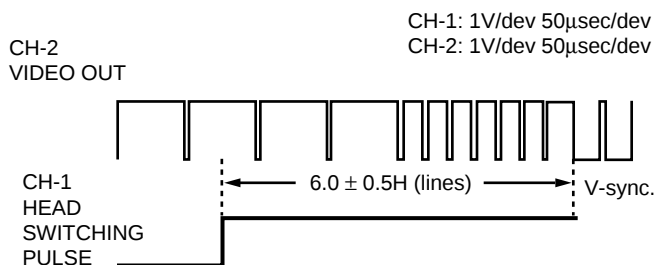

Figure 5-2.
5. Watch the oscilloscope screen and make sure that the leading edge of the head switching pulse is 6.0H (lines) ahead of the vertical sync as shown in Figure 5-2.